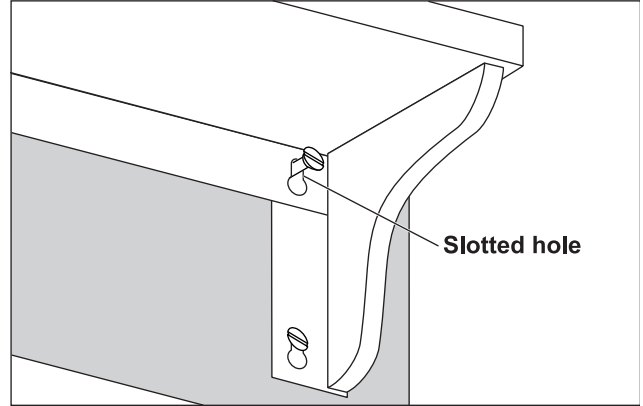

Figure 10. Carving board shelf mounting brackets
2. Loosen the top screw in the slotted hole at the top of the bracket on both sides of the unit as depicted in figure 10.